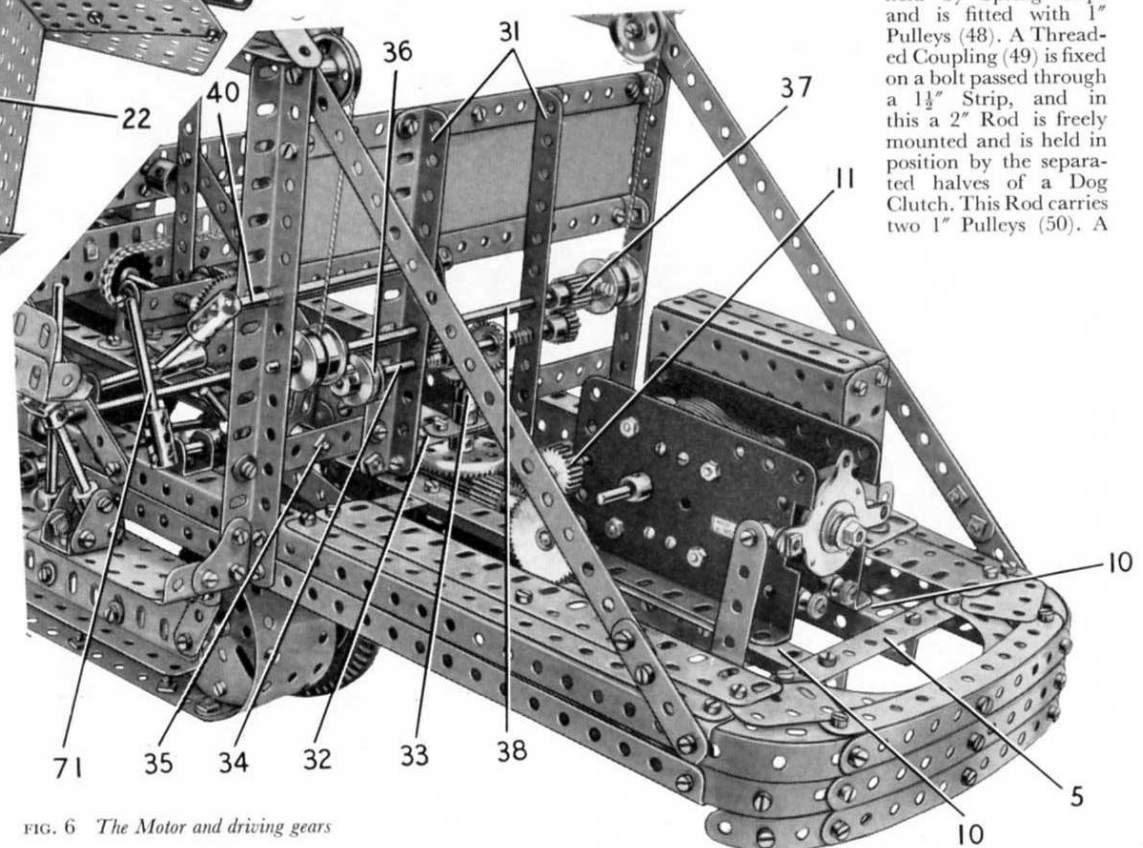

FIG. 6 The Motor and driving gears
An E15R Electric Motor is bolted by its flanges to the Girders (10) (see Fig. 6) and a
$\frac{7}{16}$ " Pinion on its armature shaft drives a 60-tooth Gear (see Fig. 2) on a 3" Rod mounted in the Motor side-plates. This Rod carries a $\frac{3}{4}$ " Pinion (11) (Fig. 6) that drives a 50-tooth Gear on a $2\frac{1}{2}$ " Rod. A Worm (12) (Fig. 2) fixed on this Rod engages a $\frac{1}{2}$ " Pinion on an $11\frac{1}{2}$ " Rod (13). The bearings for Rod (13) are provided by a "Double Arm Crank (14) and a $1\frac{1}{2}$ " Strip, each of which is attached to the Girders (10) by two Angle Brackets. The $1\frac{1}{2}$ " Strip is positioned immediately behind a $\frac{1}{2}$ " Pinion (15) (Fig. 8) fixed on the Rod, which carries also a $\frac{3}{4}$ " diameter $\frac{1}{2}$ " face Pinion (16) and a $\frac{3}{4}$ " Bevel Gear (17).
Two $5\frac{1}{2}$ " Angle Girders (31) are connected to the Girders (10) by Corner Angle Brackets, and each is joined to one of the Girders (2) by a 3" Strip. The Girders (31) are connected by two $5\frac{1}{2}$ " x $2\frac{1}{2}$ " Flexible Plates overlapped seven holes and edged by two $7\frac{1}{2}$ " Strips. These are attached to the Girders (2) by Angle Brackets. A $2\frac{1}{2}$ " x $\frac{1}{2}$ " Double Angle Strip (32), with a Double Arm Crank bolted to it, is fixed between the lower ends of the Angle Girders (31) (Fig. 6).
A $1\frac{1}{2}$ " Contrate that meshes with the Pinion (16) (Fig. 6) is fixed on a $1\frac{1}{2}$ " Rod free in the Double Angle Strip (32) and in the boss of the Double Arm Crank. A $\frac{1}{2}$ " Pinion (33) is fixed on the upper end of the Rod. A cross shaft (34) is formed by a 5" Rod mounted in the Girders (31), and this carries two $\frac{3}{4}$ " Contrates arranged one on either side of the Pinion (33), with a Compression Spring between each Contrate and one of the Girders (31).
The movement of Rod (34) is controlled by a Bell Crank mounted on a Pivot Bolt (35) (Fig. 6). One arm of the Bell Crank is extended by a 1" Rod held in a Handrail Support, and a Threaded Pin is fixed in the other arm. The Threaded Pin engages a $\frac{1}{2}$ " loose Pulley (36) with a $\frac{3}{4}$ " Washer and a Collar on either side of it. A $\frac{1}{2}$ " Pinion on Rod (34) drives a $\frac{1}{2}$ " diameter, $\frac{1}{2}$ " face Pinion (37) on an 8" Rod (38). This Rod carries two pairs of $\frac{3}{4}$ " Flanged Wheels and a Ratchet Wheel (39). A Pawl on a $4\frac{1}{2}$ " Rod (40) engages